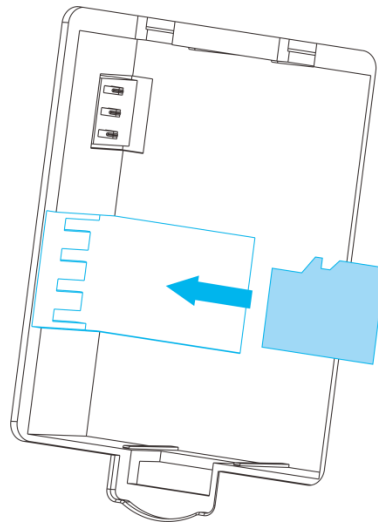

Figure 3-1
Step 2 Push SD card into the slot in accordance with arrow direction in Figure 3-1.